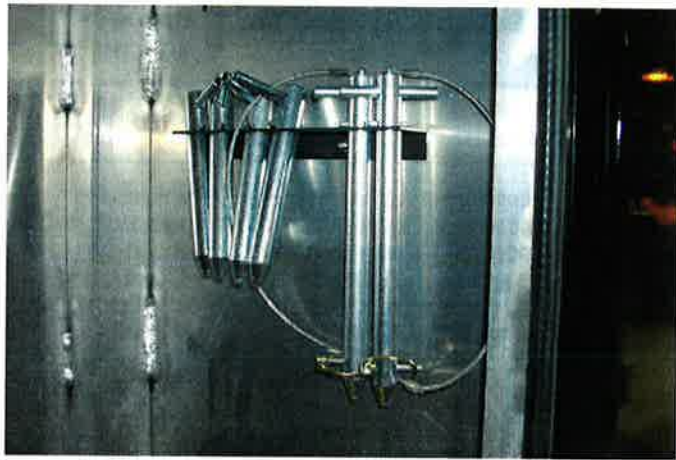

FIGURE 1
- (a) Position Cross Control Angle (Part # 0703501) on aft bulkhead of Bus Lift Storage System tool compartment. Using holes in angle as template, drill two (2) 9/32" holes through bulkhead. Attach angle to bulkhead using two (2) 1/4" x 3/4" hex head cap screws (Part # 0400066) and two (2) 1/4" nylok hex nuts (Part # 0400367). See Figure 1.